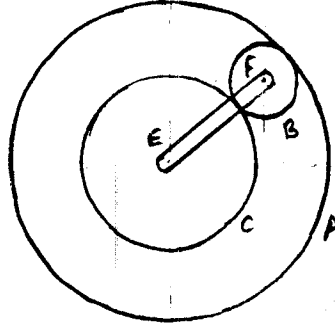

Fig.Q6(b)
- b. An epicyclic gear consists of three wheels, A, B and C shown in Fig.Q6(b). Wheel A has 72 internal teeth, wheel C has 32 external teeth. The wheel B gears with both A and C and is carried on an arm which rotates about the center of A at 18 rpm. If the wheel A is fixed, determine the speed of wheels B and C.